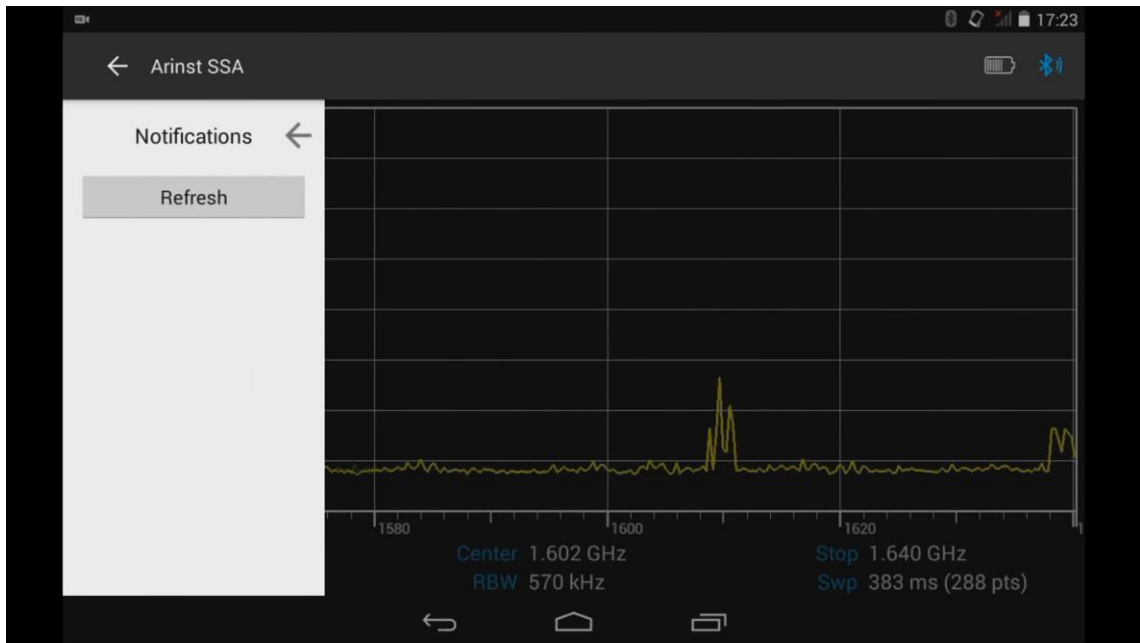

Figure 65 – Notification menu
8.12.1. From the main menu of the control program, enter the menu of address notifications from the **Notifications** support service, as shown in figure 65. To update the software version of the device, click the **Refresh** button.